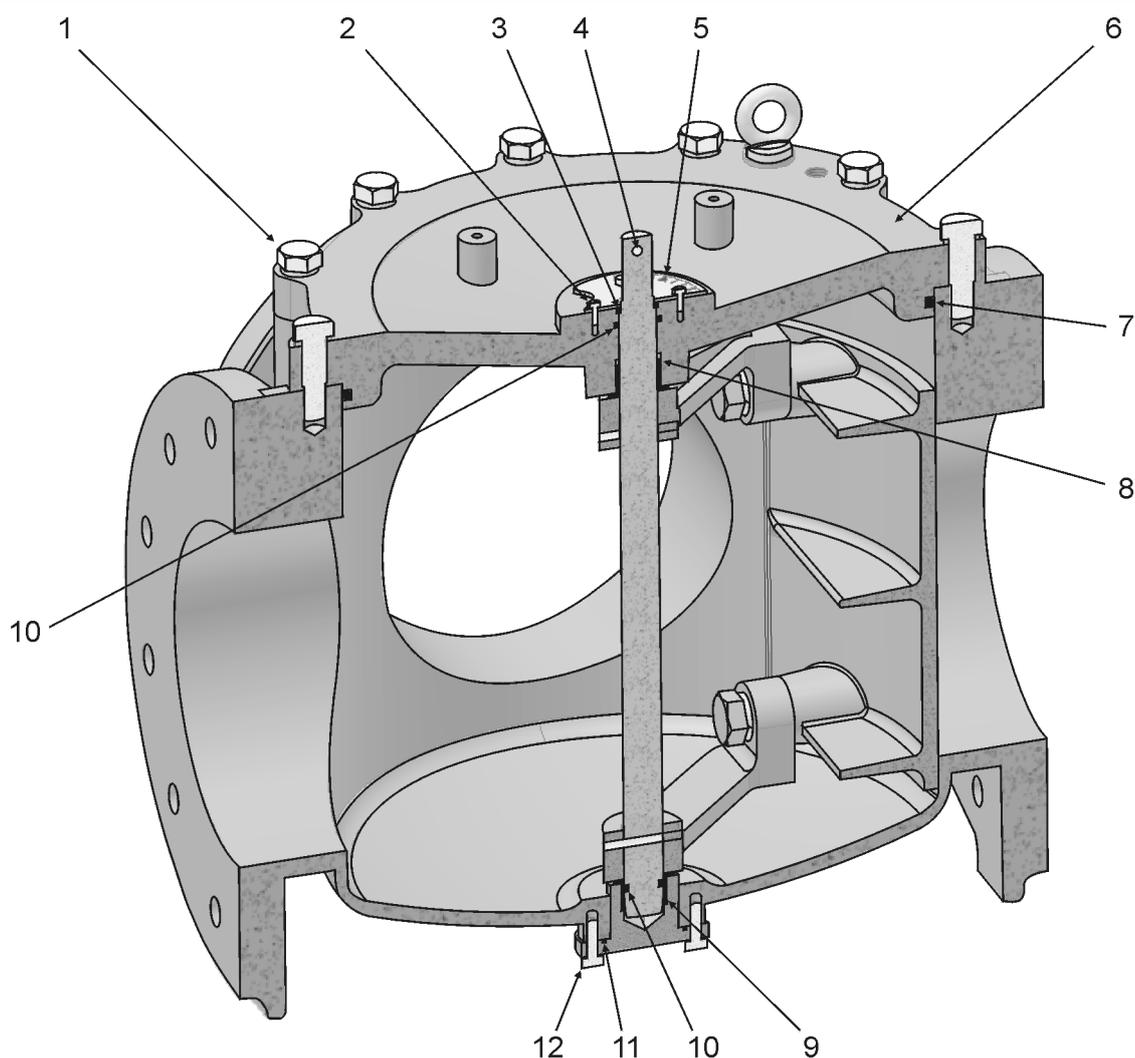

Fig 5 10 and 12 inch Valves
- 3 Fit a new cover O ring (8) to the cover and position the cover on the valve, aligning the marks made during disassembly.
- 4 Fit the cover bolts (1) and washers and tighten to a torque of 244 Nm (4" & 6" valves) or 476 Nm (8" valve).
- 5 Fit the retaining plate (5) and new O ring (3).
3.4.3 Dismantle and Assemble 10 and 12 inch Valves**Dismantle Valve (refer to Fig 5, page 20)**
Reassemble Valve (refer to Fig 5, page 20)
10 and 12 inch Valves (Fig 5, page 20)